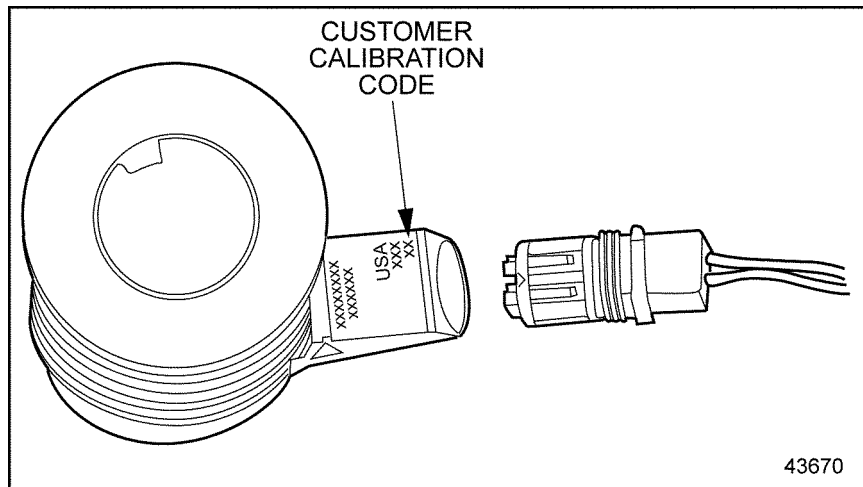

Figure 11-1 **Injector Calibration Code**
2. Compare the calibration code(s) shown on the Detroit Diesel Diagnostic Link display with the two digit calibration code(s) on the injector(s). See Figure 11-1.
- [b] If the calibration code on the display is different than the calibration code on the suspect injector for that cylinder, the injector setting must be reset, see Figure 11-1; refer to section 11.5.1.